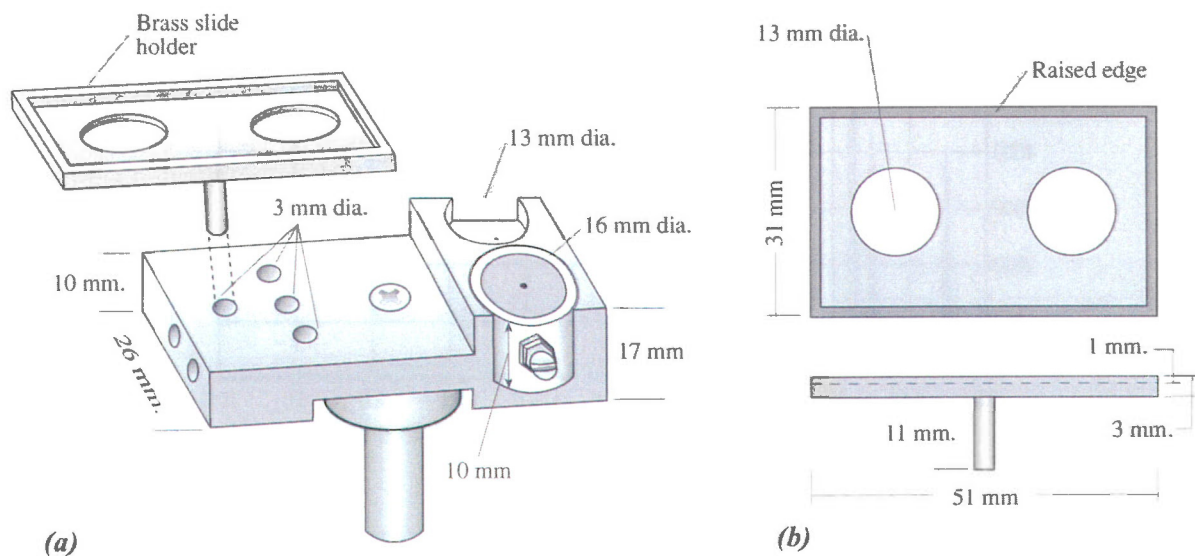

Figure 2.1 (a). Aluminum thin section holder (TSH) showing mounting position of the brass slide holder. (b). Plan and dimensions of the brass slide holder.
To perform quantitative EDS of mineral samples in our ESEM, whether mounted on a standard SEM stub (e.g. grain mounts) or on a thin section, you must use the aluminum thin section holder (TSH). A drawing of the TSH is shown in Figure 2.1.
- If your sample is mounted on an ESEM stub, place it in one of two positions illustrated on Figure 2.1. Secure with set screws.
- If your sample is a standard glass-mounted thin section, place it on the brass thin section carriage as shown in Figure 2.1.